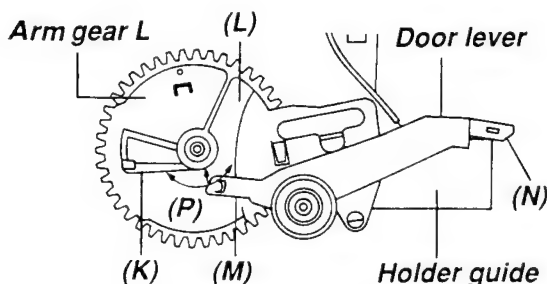
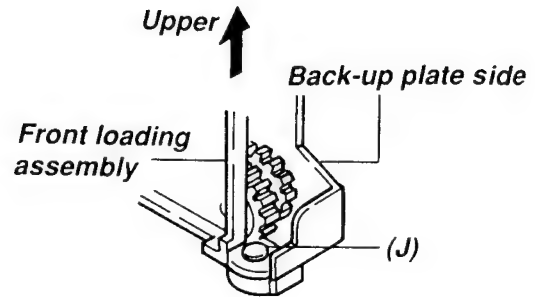

Fig. 4-1-6
Fig. 4-1-7
- Take care that the end of the door lever (M) is put in the (P) between the walls, (L) and (K), of the arm gear L. (Refer to Fig. 4-1-6.)
- Take care that the end of the door lever (N) is positioned over the holder guide. (Refer to Fig. 4-1-6.)
- When mounting the back-up plate side, take care that its (J) section is positioned over the front loading assembly. (Refer to Fig. 4-1-6, Fig. 4-1-7.)